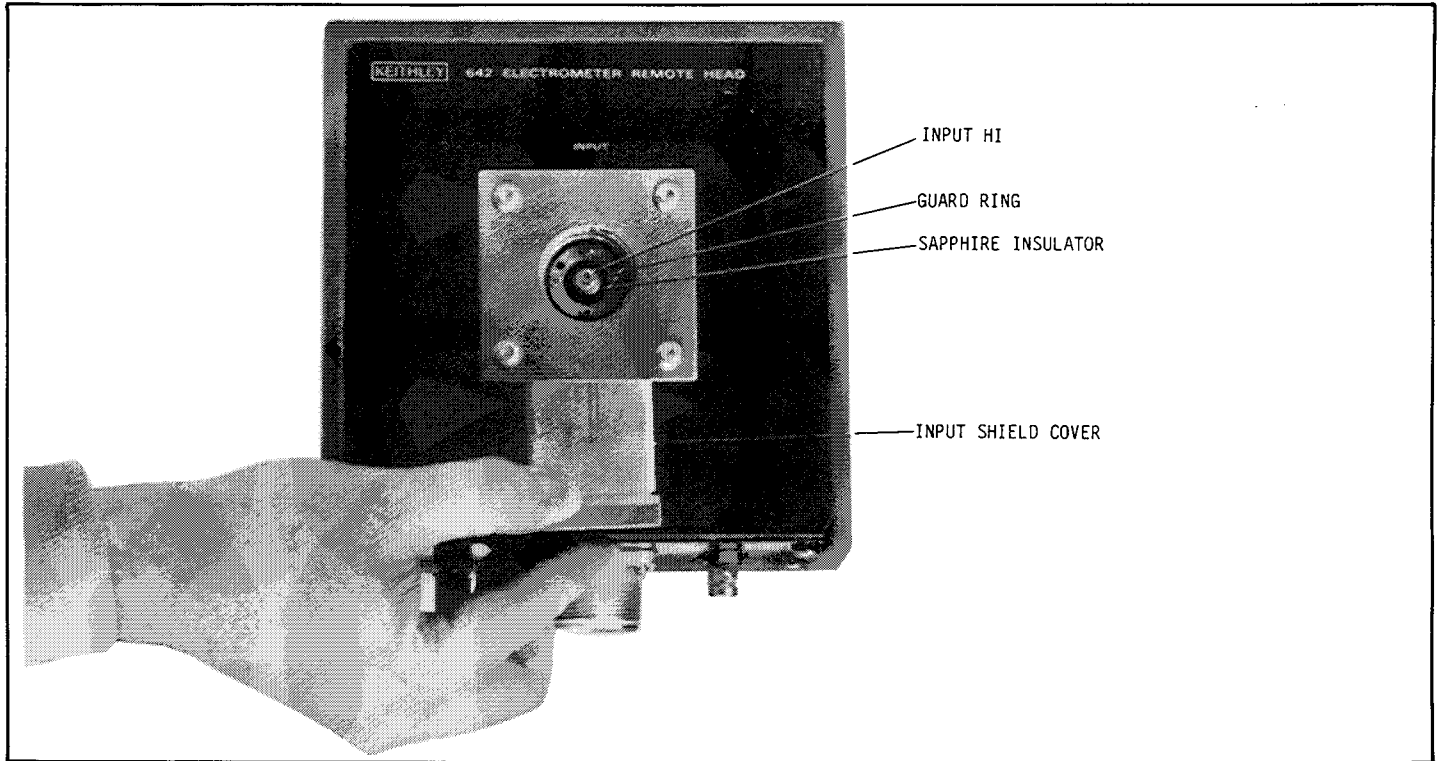

FIGURE 2-2. Remote Head Input Connector
a. Sapphire-insulated input connector. The input connector is shown in Figure 2-2. The connector consists of the input slide cover, the input high connection (center spring contact) and the cavity which accepts input adapters and serves as input low. The input high connection is insulated by optically polished sapphire to maintain an ultra high input resistance and an ultra low input current. The input slide cover performs several functions. When closed, it protects the sapphire insulator from becoming contaminated and it blocks light, RF pulses, and low level radiation from the input circuitry to prevent input offsets. When an input adapter is installed, it is held firmly in position by the input slide cover. It should be noted that the input slide cover, the input cavity and the remote head chassis are all at input low potential. The guard ring shown in the illustration is always maintained at the guard potential to reduce the effect of input capacitance. In DC voltage function, the guard ring is driven by the output of the preamplifier (head output) while in current and charge functions the guard ring is at input low. The guard ring is sometimes referred to as the input tube, see Schematic 29654E.
2-41. As previously described, input overloads should be avoided. An input overload can be defined as the condition that exists whenever the preamplifier output in the remote head exceeds approximately ± 12 volts. These points are the maximum voltage swing limits of the preamplifier in the remote head. Any further increase in the input signal when these limits are reached will result in a difference in potential between the input node of the MOSFET and the GUARD RING shown in Figure 2-2. As a result, a charge will be injected into all insulators between these two points, dependent on the severity of the input overload. It is the subsequent discharge of these insulators which accounts for long input bias current settling times after severe input overloads. Thus, it can be seen that it is important to detect input overloads in order to limit their duration or severity. One way of detecting an input overload is to monitor the FEEDBACK BNC connector on the remote head. Another way is that an input overload will cause an overrange indication. However, an overrange indication does not necessarily mean that the input is overloaded. An overrange indication will be displayed whenever the range of the A/D converter in the mainframe is exceeded, 19,999 counts for the 0.1 and 1.0 ranges and 10,999 counts for the 10 range. Table 2-3 gives a correlation between the preamplifier output voltage and the overrange indication. The output voltage values listed are the minimums at which an overrange indication would occur. As a further explanation, the following sequence of events would occur when a positive ramping voltage was applied to the Model 642 with 10 range and voltage function selected. An overrange indication will be displayed when the voltage reaches 11 volts. An input overload will exist when the voltage reaches 12 volts. In summary, you can avoid or detect input overloads by either monitoring the feedback output or considering that an input overload may exist whenever an overrange is indicated.